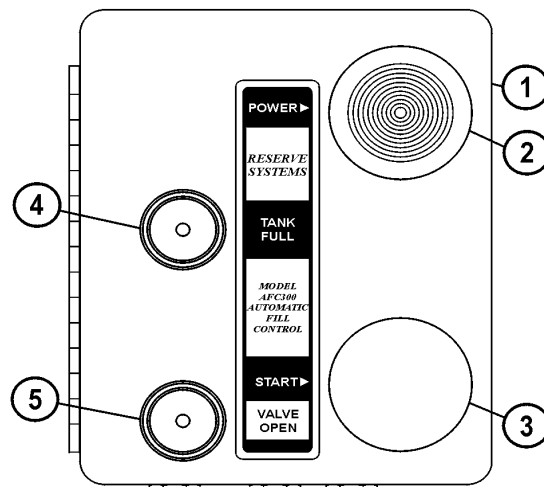

FIGURE 2-1. CONTROL PANEL
2. Pull out on switch (2, Figure 2-1) to turn the system on.
3. Push start switch (3). The "VALVE OPEN" light (5) should illuminate and the filling process will begin.
4. When tank is full, the "VALVE OPEN" light will turn off and the "FULL" light (4) will illuminate.
6. Press and hold start switch (3) for a couple of seconds.
8. Push switch (2) in to turn system power OFF.
4.	ENGINE - a. Check the oil level on the dipstick. Refer to the engine manual for oil recommendations. (Lube Key "A"). NOTE: If the truck is equipped with a reserve engine oil tank, the oil should be visible in the center (middle) sight gauge. If not, add oil to the reserve tank until oil is visible in the top sight gauge. Also, with the engine running, check operation of the LED indicator light. See below for description of LED light signals. Refer to Figure 2-1. LED Light Signals: - Steady - Pump 1 is withdrawing oil from the engine sump and bringing down the oil level. - Regular pulsing - Pump 2 is returning oil to the engine sump and raising the oil level. - Irregular pulsing - Oil is at the correct running level. b. Inspect exhaust piping for security. c. Check for abnormal noises and fluid leaks. d. Eliminator Filter - Check operating indicator.